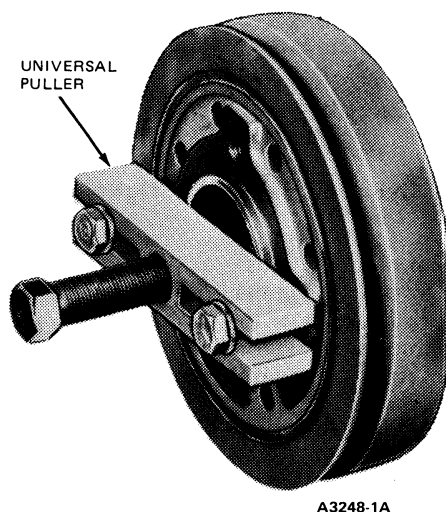

FIG. 25 Crankshaft Vibration Damper Removal—F-100 and F-250, Bronco
2. Remove the crankshaft pulley from the crankshaft vibration damper. Remove the damper attaching bolt and washer. Install the puller on the crankshaft vibration damper (Fig. 25) and remove the vibration damper.